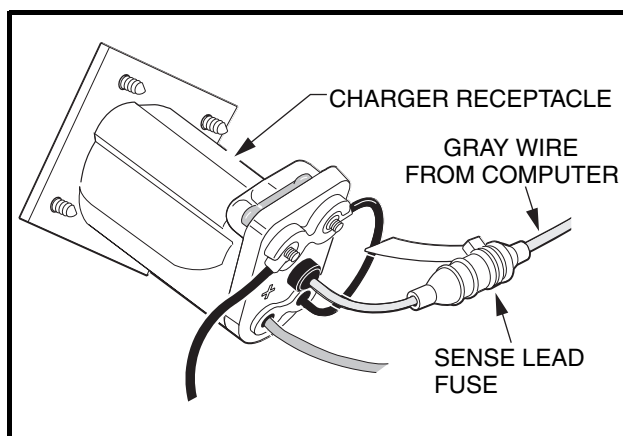

Figure 3-13 Receptacle Wire Connections (all vehicles except Precedent)
- 3.2. Make sure the two nuts that secure the two 10-gauge black wires to the receptacle fuse assembly are tight (**Figure 3-13, Page 3-18**).